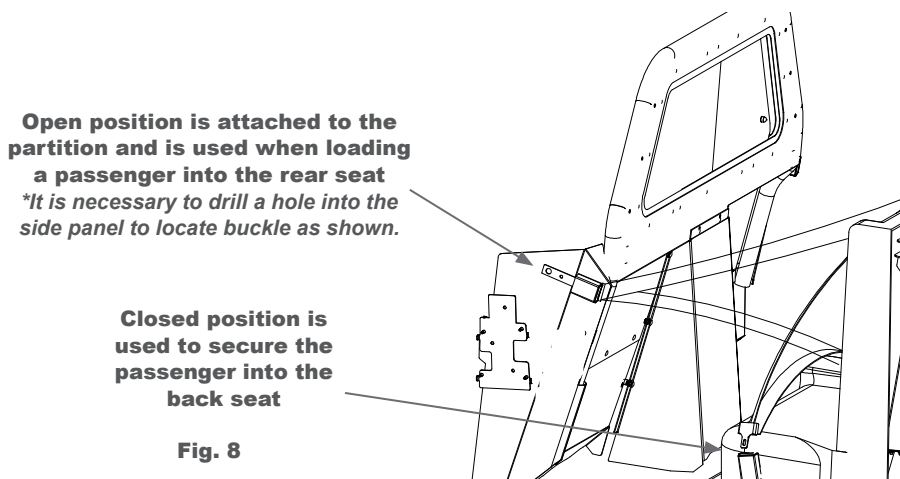

Fig. 8
- D. Now the partition seat belt buckle bracket should be attached to a convenient place on the driver and passenger side panels allowing the seat belt to be placed in the open position. The open seat belt position allows the user easy access while loading passengers into the back seat belt system. (Fig. 8)